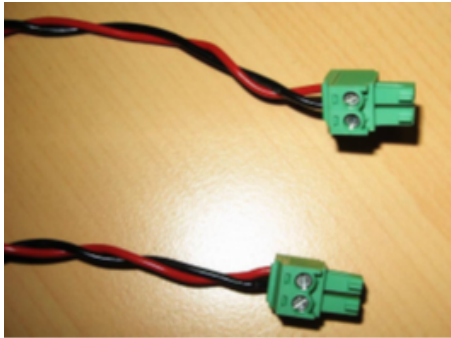
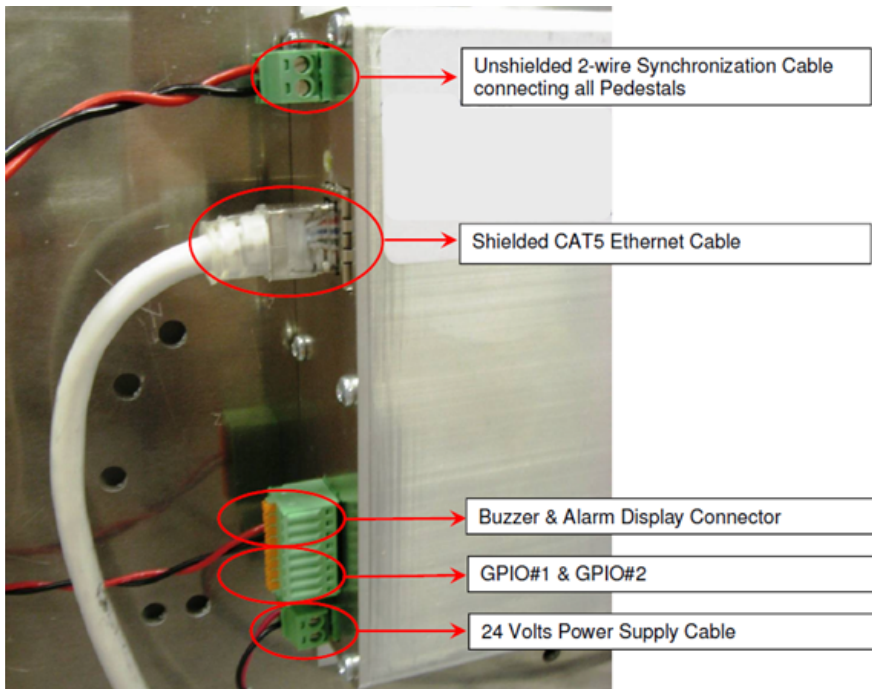

Figure 5.3: Detailed Wire Synchronization Assembly
Figure 5.4: LSP3A-LR Clear PEM Connectors & Cables Location
First prepare a cable of appropriate length to connect 2 consecutive Electronics as shown in Figure 5.3 and Figure 5.4
Then unscrew the 4 screws to open the bottom plastic cover panel of each pedestal forming the aisle to gain access to the Product Electronic Module and connect the top 2-way connector as shown in Figure 5.4 thereafter.
2. Connect all pedestals Synchronization to the Synchronization I/O as shown on Figure 5.4.